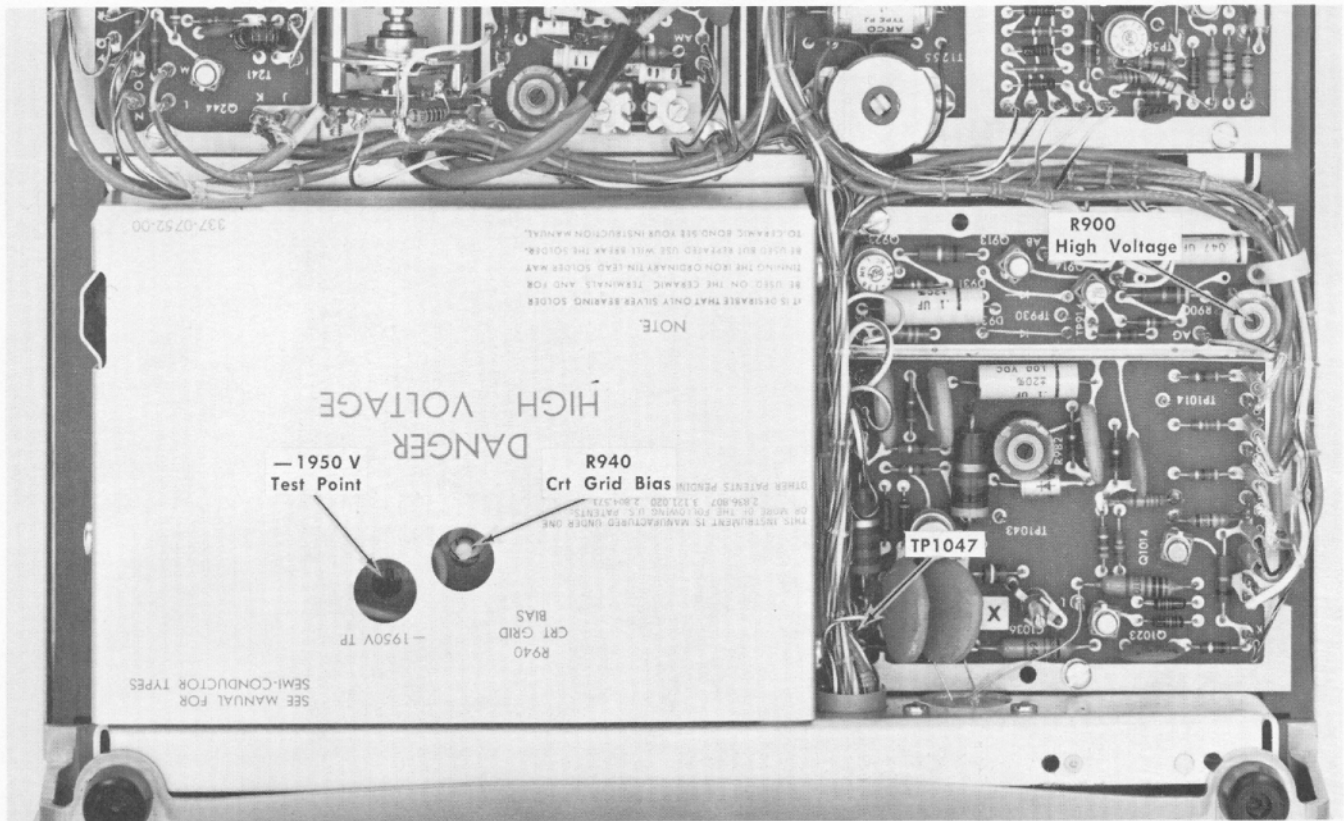

Fig. 6-10. Location of adjustments and test points on Z Axis Amplifier board.
- b. Connect the dc voltmeter from the —1950 V test point (see Fig. 6-10) to chassis ground.
- d. Adjust—High-Voltage adjustment, R900 (see Fig. 6-10), for —1950 volts.
- b. Connect the dc voltmeter from TP1047 (Z Axis Amplifier board; see Fig. 6-10) to chassis ground.
- e. Adjust—Crt Grid Bias adjustment, R940 (see Fig. 6-10), so the spot just disappears.